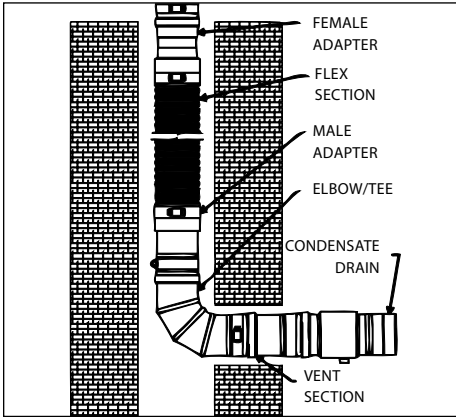

Figure 14
4. The FasNSeal Flex must stay within the masonry chimney; however the Elbow or other FasNSeal components will extend beyond the masonry chimney. (**Figure 14**)